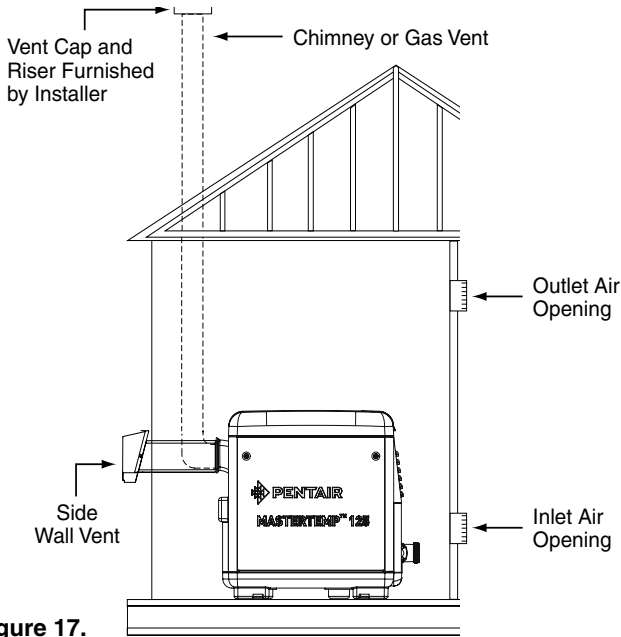
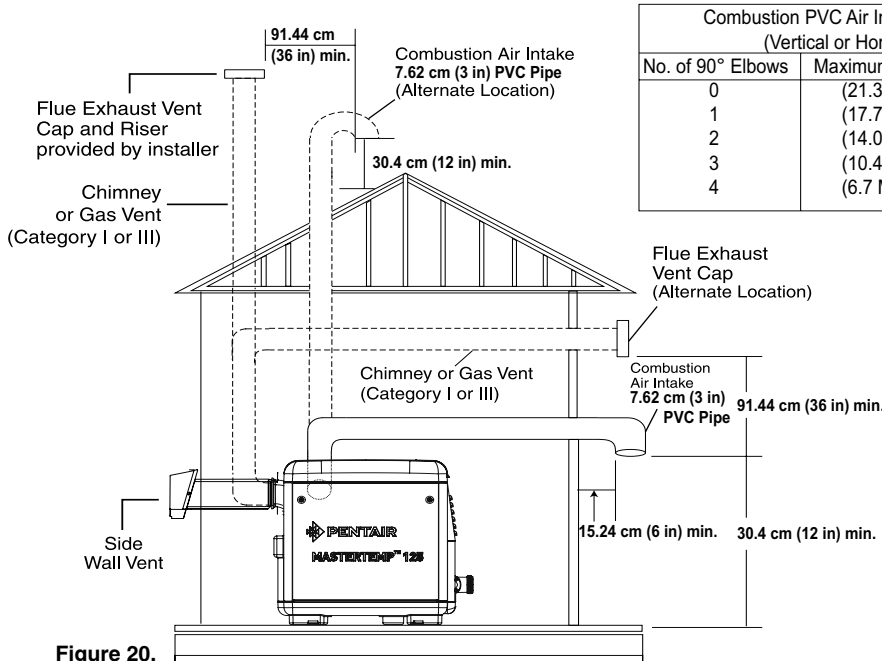

Figure 17.
Figure 20.
HORIZONTAL OR VERTICAL VENTING - USING SINGLE-WALL STAINLESS GAS VENT (SEE FIGURES 17, 18, 19 ON PAGE 15 & FIGURE 20 ON PAGE 16)
6. **Vent Termination – Vertical** (see Figures 17, 18, 19 on page 15 & Figure 20 on page 16) for height of vent termination above the roof. Use an "Approved" vent terminal specified by local and national codes and your manufacturer's instructions. A roof termination must be vertical.
8. **Vent Termination – Horizontal (Continued)** The terminal must be located (See Figure 20 on page 16):
For indoor heater installations where combustion air supply might be insufficient, the MasterTemp 125 Heater is certified for a direct air intake duct using 76 mm (3 in - UK) PVC pipe (Pentair P/N 461031). If outside air is drawn through PVC duct directly into the heater, PVC pipe can be installed in accordance with the following requirements: The air intake opening **MUST** be installed at least 30.5 cm (12 in) above the roof line or normal snow levels for free air flow. The Category I or III exhaust vent termination cap must have at least 1.8 m (6 ft.) minimum vertical clearance from air intake duct (see Figure 20 below).